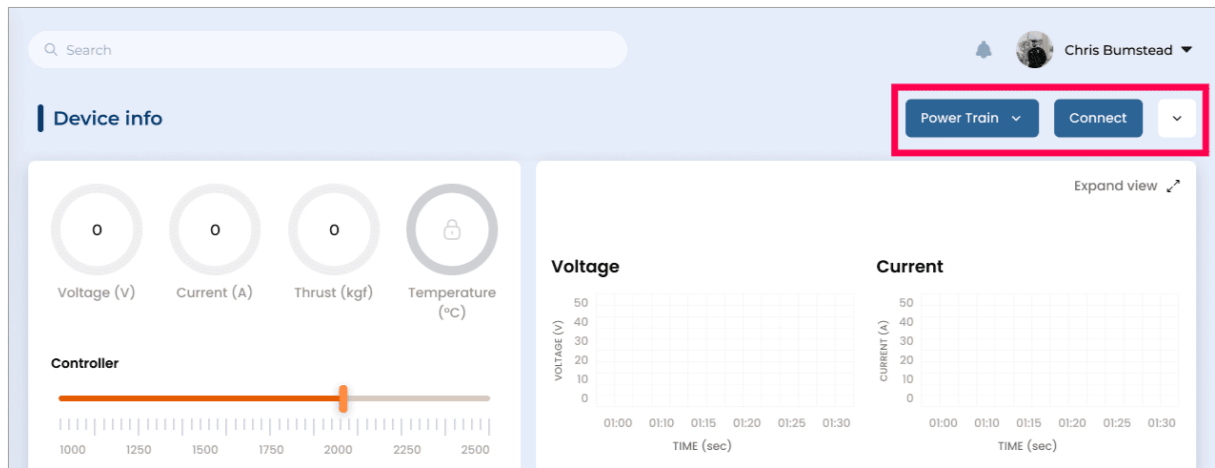

Figure 17: Firmware connection
- To view detailed information about the selected powertrain, click the dropdown arrow beside the 'Connect' icon as in Figure 17.